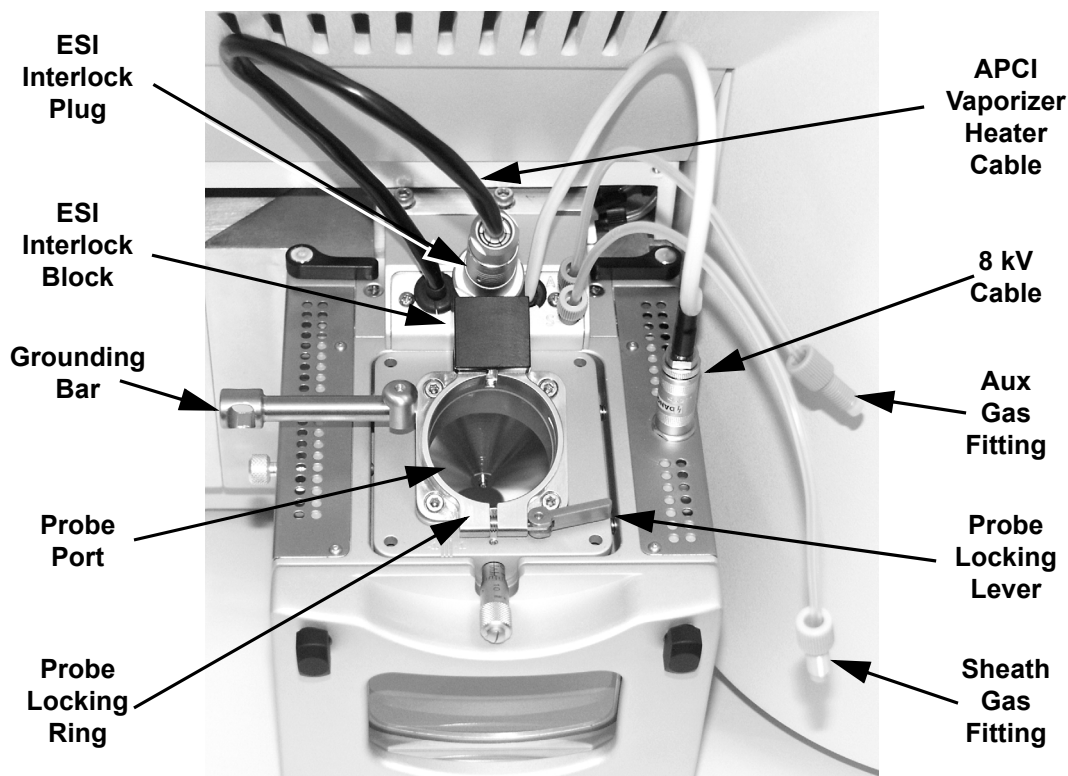

Figure 2-10. Ion Max ion source housing, probe locking lever open
2. Ensure that the probe locking lever on the ion source housing is unlocked (opened to its widest position). See Figure 2-10.